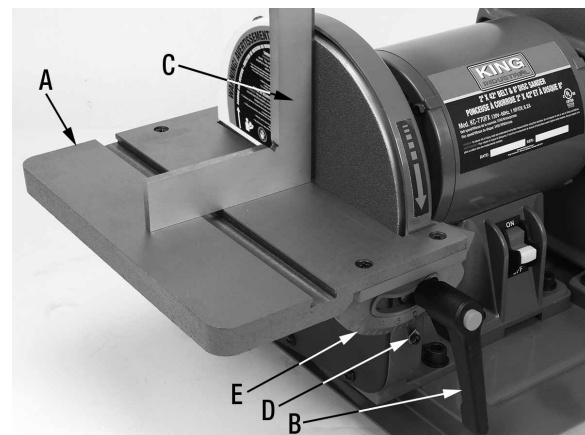

Figure 10
The disc table (A) Fig.10 can be tilted downward from 0-45°. To adjust and set the disc table angle to a perfect 90° angle.
1. Loosen both disc table lock handles (B) Fig.10, now the disc table (A) can be tilted and locked at the desired angle.
2. To set the disc table at a perfect 90° angle to the sanding disc, loosen lock handles (B) Fig.10, then position a square (C) on the table and up against the sanding disc. Adjust the angle of the disc table until the sanding disc and disc table are square, retighten lock handles (B).
3. If the disc table is square with the sanding disc, but the angle indicator (D) is not aligned with the 0° mark of the trunnion scale (E), loosen the angle indicator screw and reposition the angle indicator to line up with the 0° mark of the trunnion scale (E).